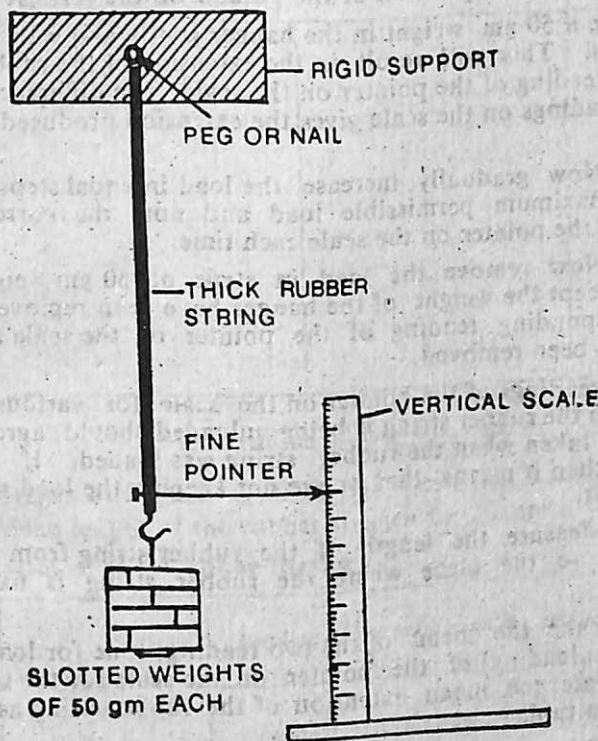

Fig. 34.1. Improved apparatus for stress-strain relationship for rubber string
1. Set up the apparatus as shown in Fig. 34.1 i.e., suspend a sufficiently thick rubber string from a peg fixed in a rigid support on the wall of the Physics Laboratory. Also suspend the hanger of the slotted weights to the other end of the rubber string. Attach a fine pointer near the lower end of the rubber string which moves over a vertical scale. See that the tip of the pointer is on the scale.